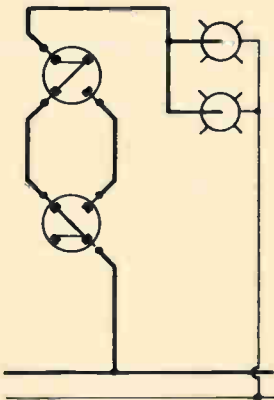
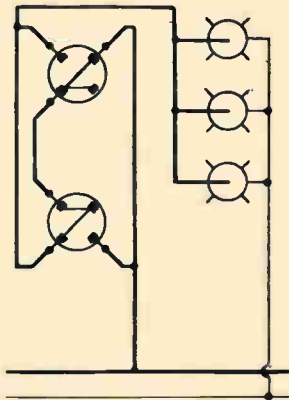
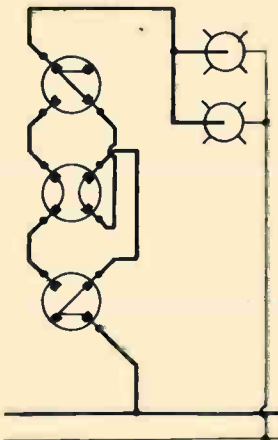

Fig. 16-1
Fig. 16-2
Fig. 16-3
**Fig. 16-1.** Approved method of using two 3-way switches to control lamps or other loads from two places. **Fig. 16-2.** Another two-place control. **Fig. 16-3.** One 4-way and two 3-way switches controlling loads from three places. **Fig. 16-4.** One 3-way and two 4-way switches control each load alternately from three places.